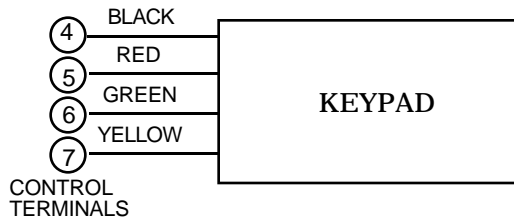

Figure 6. Keypad Connections To The Control Board
3. Connect remote Keypads to terminals 4, 5, 6, and 7 on the control board, as shown in Figure 6.